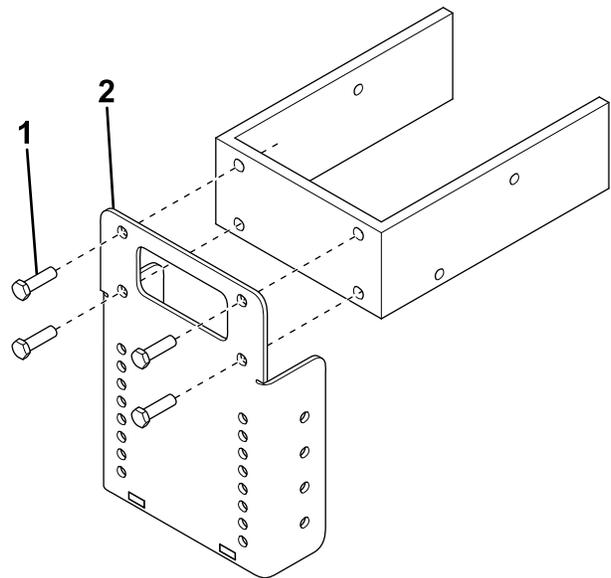

Figure 1
2. Using 4 bolts (M14), secure the front plate to the frame as shown in Figure 1.